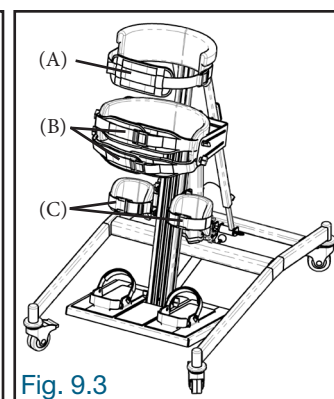

Fig. 9.3
9.3 To securely maintain the user inside, adjust and buckle the straps in the following order (Fig. 9.3):